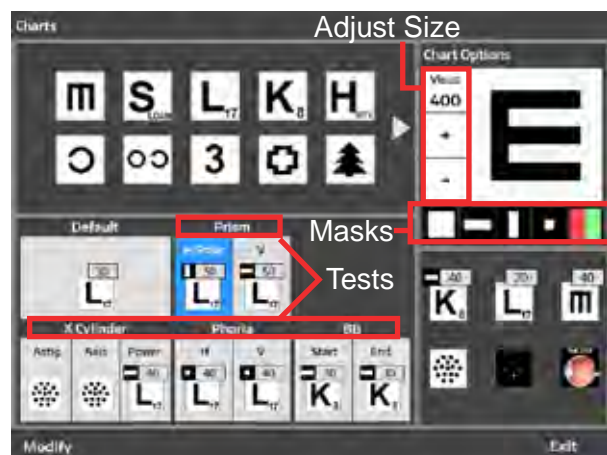

Figure IS-32 Program/Chart Edit
2. The Charts screen will pop up. Refer to Figure IS-32.